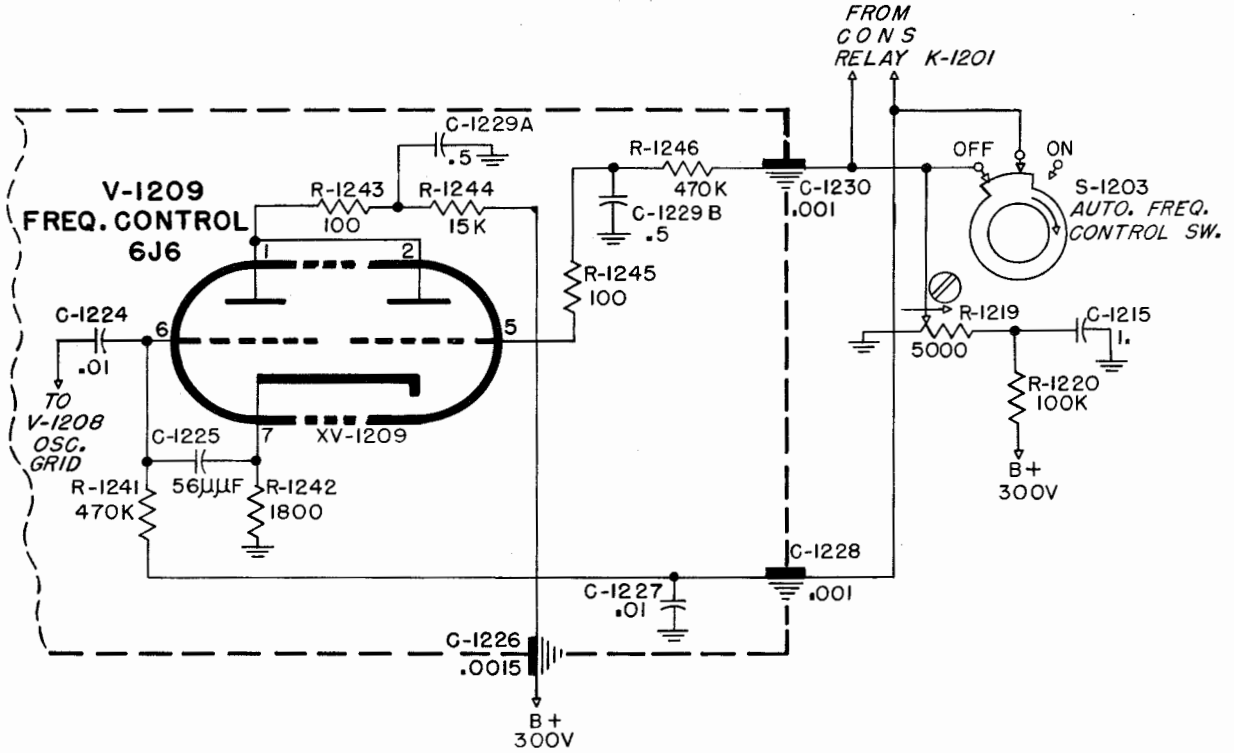

Figure 2-43. Frequency Control V-1209, Simplified Schematic Diagram
(5) FREQUENCY CONTROL, V-1209 (CV-127/FRR-24). (See Figure 2-43).—The mark detector voltage is connected to the grid of one triode section of the frequency control tube V-1209, a type 6J6 dual triode, by way of the Mark Polarity switch section S-1201B. The grid of the other triode section of V-1209 is supplied a constant positive voltage through potentiometer R-1219. Potentiometer R-1219 is adjusted to 9.2 volts so that with a correct signal frequency the grids of both triode sections of V-1209 have equal positive potentials. These potentials applied to the two grids of V-1209 are reversed by the Mark Polarity switch S-1201 when that switch reverses the polarity of the discriminator voltages of V-1204. Reversing the polarity of both grid potentials